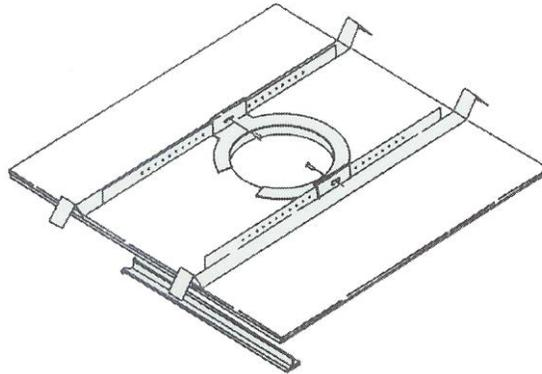

Figure 4 - Secure rails to split ring
**Suspended Ceilings** - Insert the split ring through the hole cut in the ceiling tile. Place the split ring around the hole with the tabs located as shown in Figure 4. Insert the tile rails through the hole cut in the ceiling tile. Snap the two rails into the two tabs in the split ring and align the rails so that the ends extend **OVER** the T-channel grid on the side of the tile. Secure the rails onto the split ring tabs by inserting a screw through each tab into the rail, as shown in Figure 4.